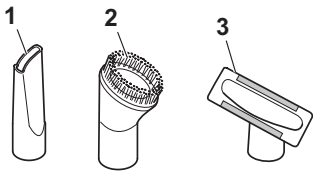

Fig. 6
- **Crevice nozzle (Fig. 6/1)**
- **Furniture brush (Fig. 6/2)**
- **Upholstery nozzle (Fig. 6/3)**